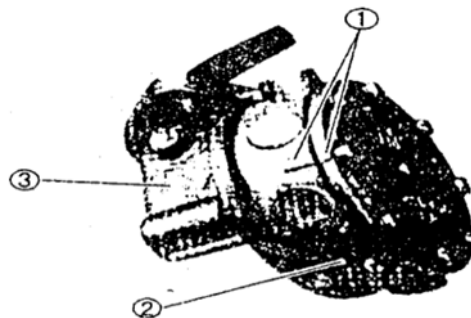

Fig. 2.1-5
As indicated in Fig. 2.1-5, the upper and lower joints shall be marked ①, to recognize the angle position of upper body ② and lower body ③. Only if angle relation is ensured, the oil circuit can be connected.